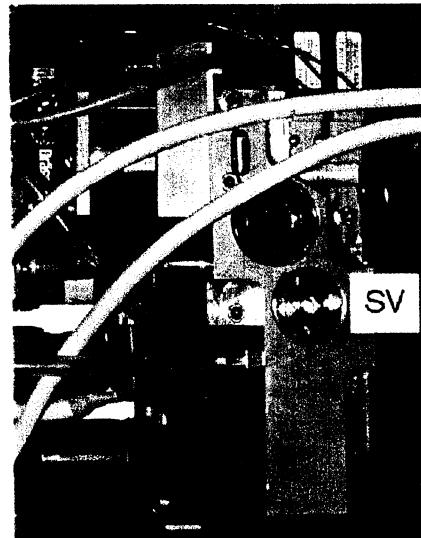

Fig. 4 Safety valve
5. Set safety valve Fig. 4/SV to 80 mbar +/-5 mbar (105 mbar +/-5 mbar for US unit 2M86965).